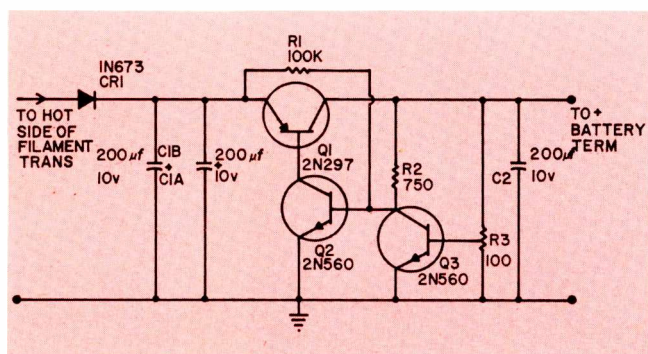

Fig. 1—Schematic of 1.5 v regulated power supply for VTVM ohmmeter function.
■ A regulated supply replacement for the 1.5-v battery in most VTVM ohmmeter circuits can greatly increase their accuracy. A simple circuit is shown in Fig. 1. The output of the regulator is adjusted to 1.5 v by R3, a 100-ohm potentiometer. The output voltage changes less than 30 mv from no load to full load and less than 10 mv as the input is varied from 5 to 8 v. This results in improved accuracy at the low resistance ranges, and worry about battery drain and replacement is gone forever.